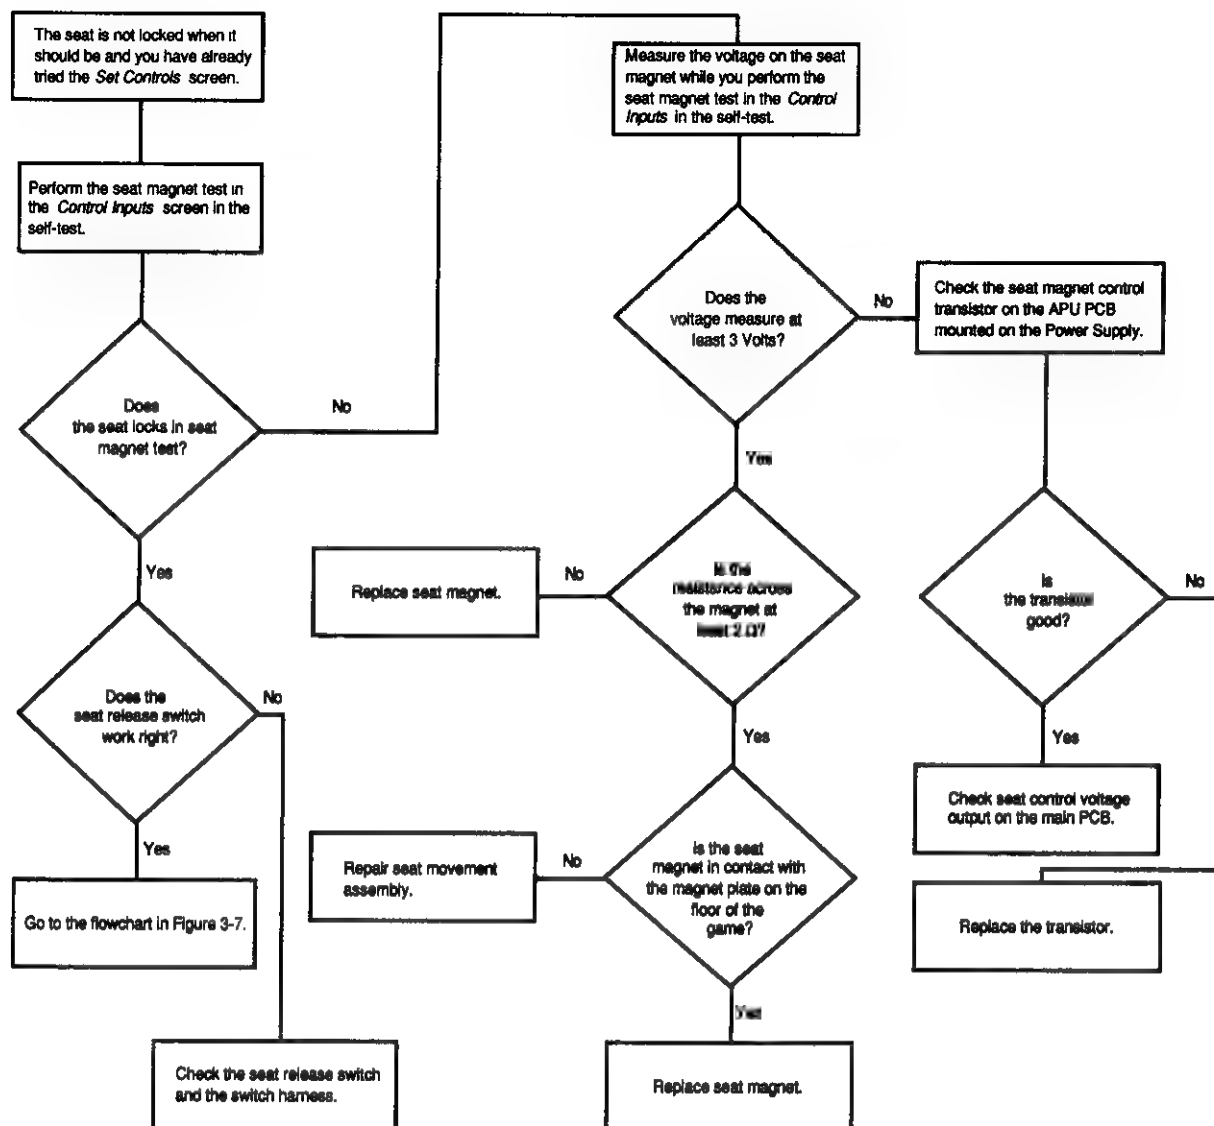

Figure 3-14 Seat Is Not Locked When It Should Be And You Have Already Tried the Set Controls Screens
- If the seat locks when it should not, follow the flowchart in Figure 3-14.
Seat is locked when it should not be.	<ol style="list-style-type: none"> 1. Go through the Set Controls screen in the self-test. 2. See Figure 3-14 to find out the cause. 3. Check the APU PCB.